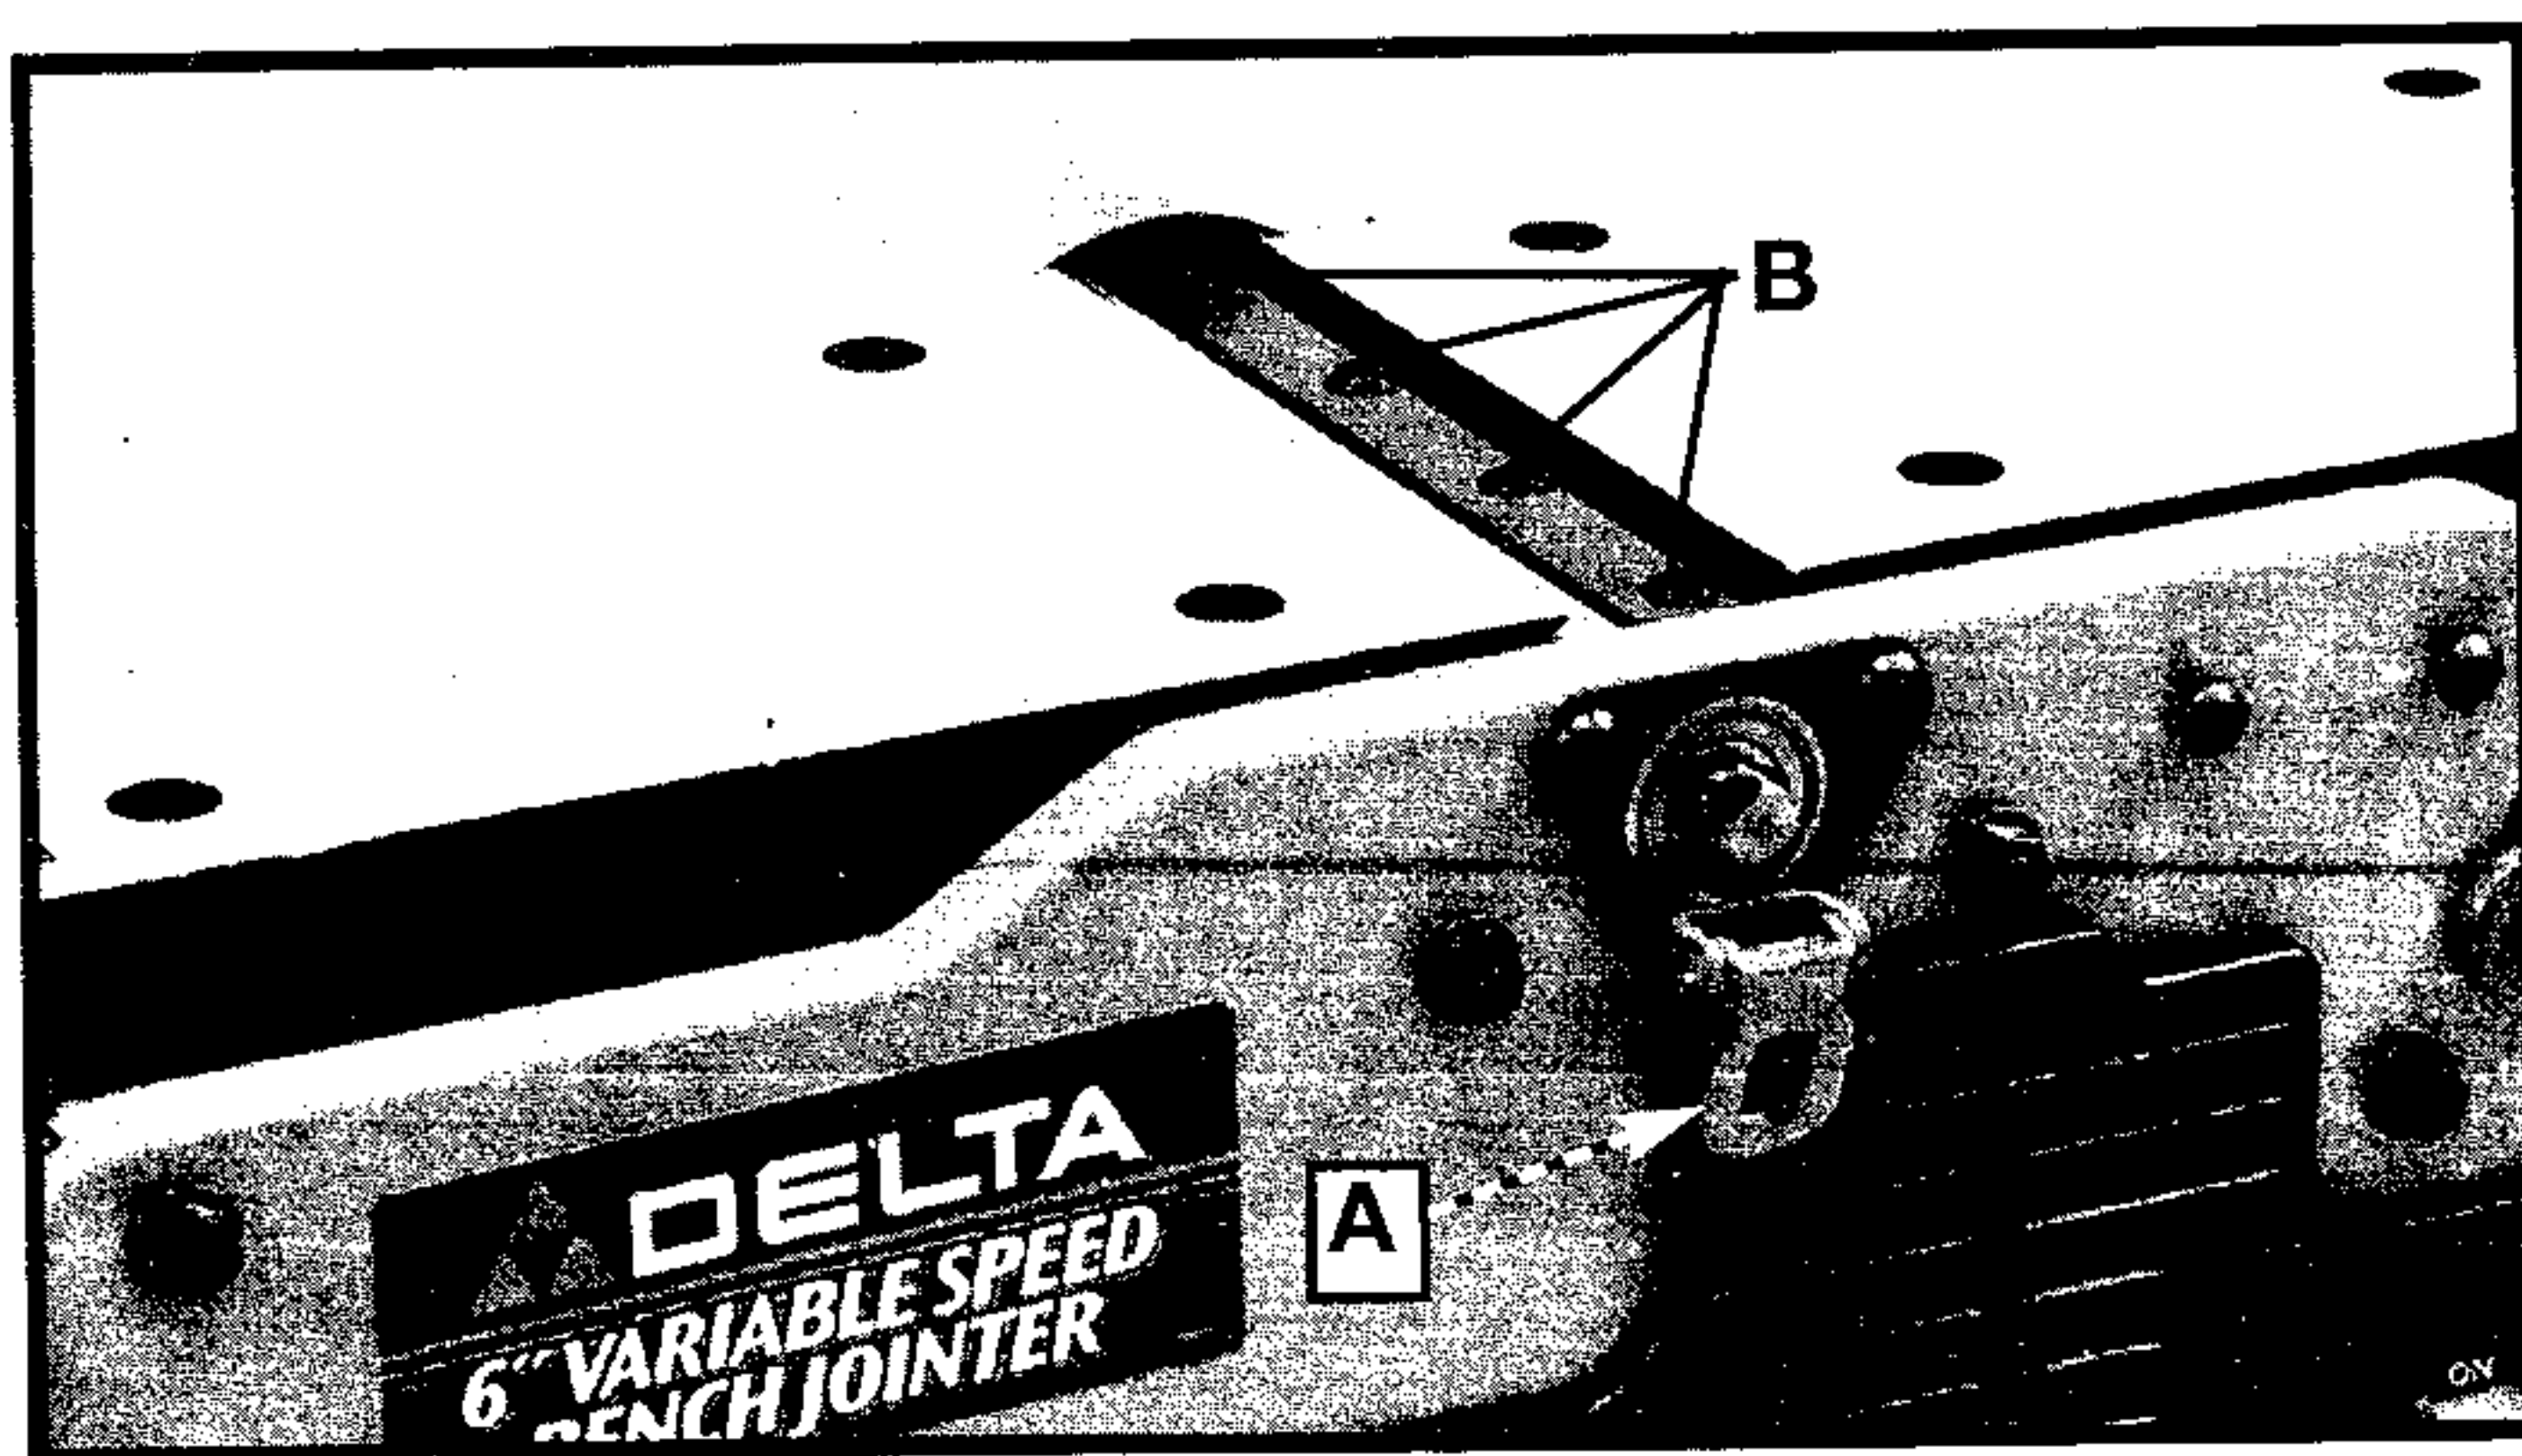
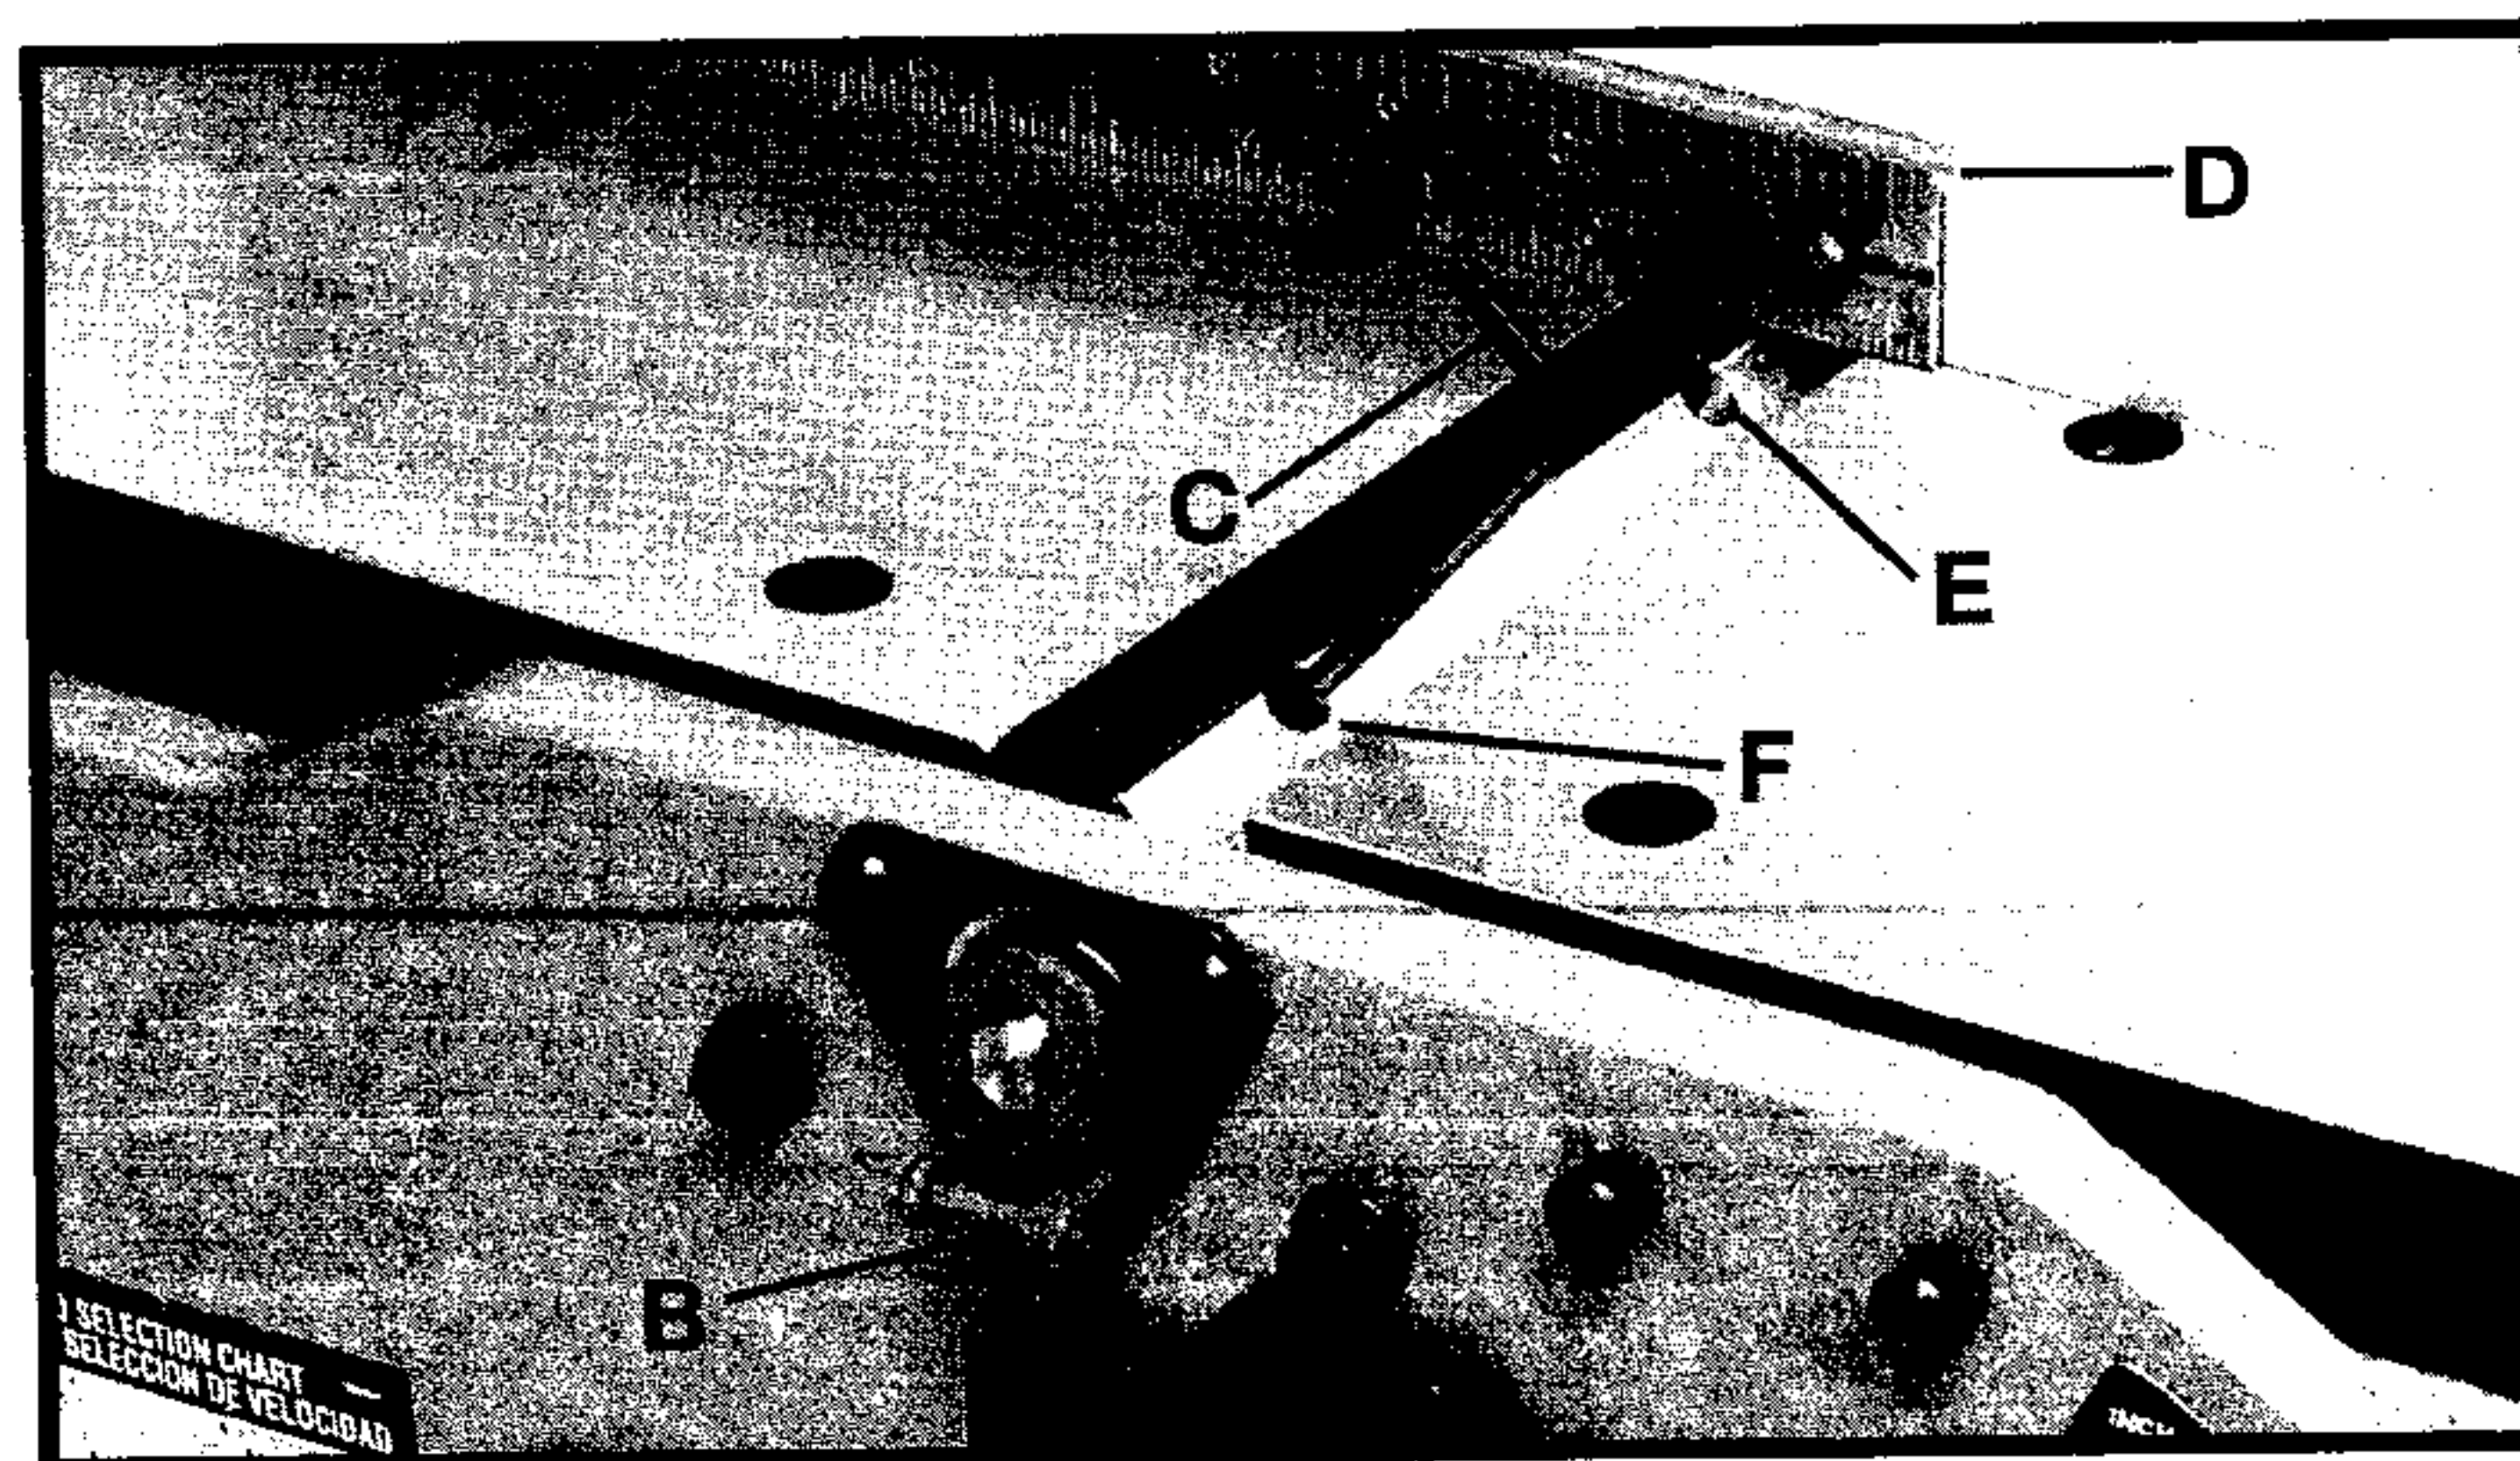

Fig. 30
Fig. 31
2. Make sure the cutterhead lock (A) Fig. 30 is not engaged, rotate cutterhead and loosen four screws (B) Fig. 30.
3. Rotate cutterhead and engage cutterhead lock (B) Fig. 31, on cutterhead shaft as shown. This will position knives for proper adjustment to the outfeed table.
4. Place a straight edge (D) Fig. 31, on the outfeed table extending out over the knife as shown. Using wrench (C) supplied, turn screw (E) until knife just touches straight edge. Adjust knife at near end of cutterhead in the same manner turning screw (F). Tighten four screws (A) Fig. 30, after adjustment is made.